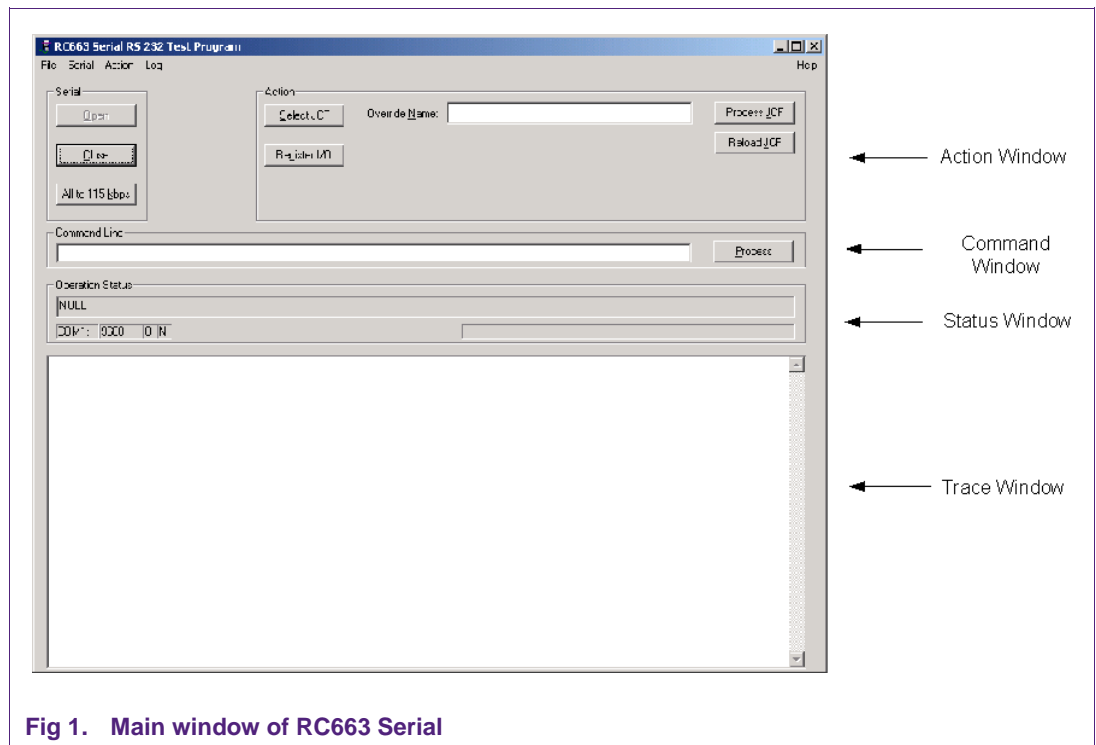

Fig 1. Main window of RC663 Serial
1. Start the *RC663 Serial RS232 Test Program* by clicking on the executable file. It is a standalone program, no further installation is required. An empty window opens as outlined in Fig 1: